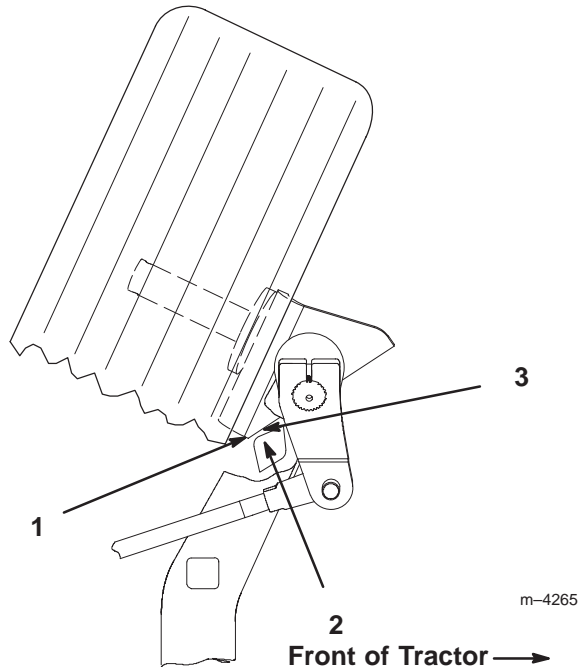

Figure 3
1. With the tractor on a level surface, turn the steering wheel fully to the left and check the clearance of the left hand spindle stop to the stop on the front axle. There should be a slight clearance between the stops (Fig. 3).